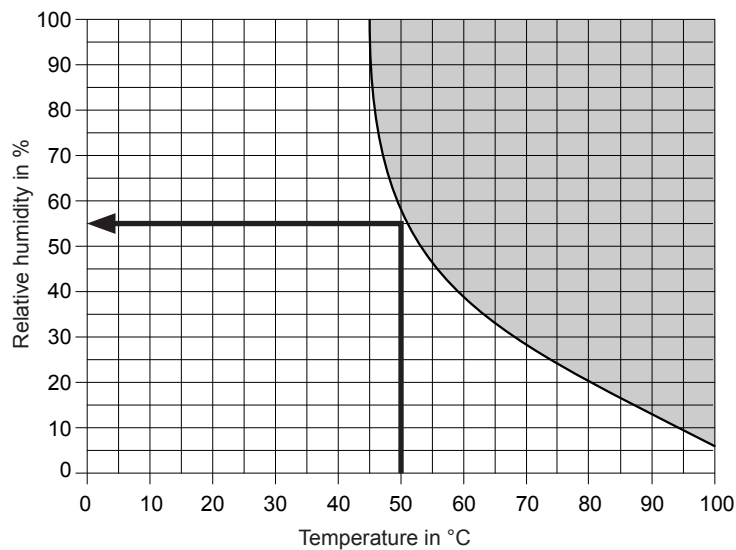
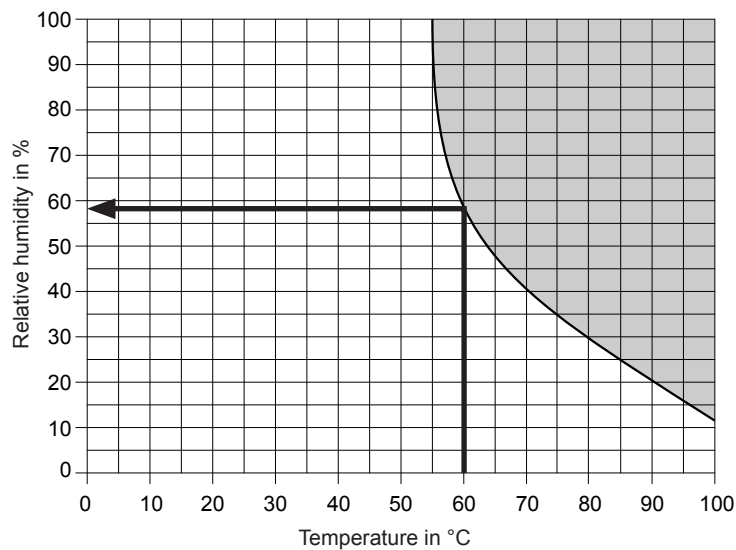

Fig. 3: Enthalpy curve "Standard", correct use according to EN 60335-2
Fig. 4: Enthalpy curve "Tolerant", incorrect use
- 1) For temperature-humidity control of a bio sauna, only temperature and humidity setpoints on the left and below of the selected enthalpy curve ("Standard" (factory setting, correct use according to EN60335-2) or "Tolerant" (incorrect use)) can be set (see Abb. 3 and Abb. 4). If the humidity or temperature setpoint is modified, the other setpoint is automatically adjusted to the maximum value according to the selected enthalpy curve.